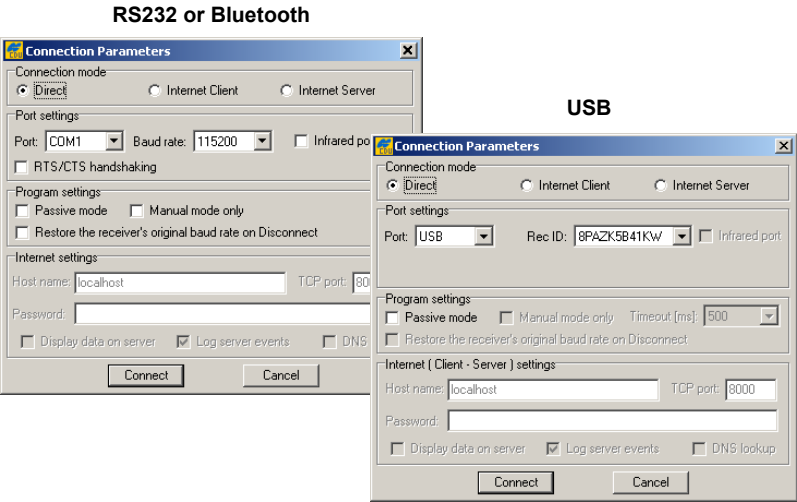

Figure 3-20. Connection Parameters
4. On the **Connection Parameters** dialog box, select the following parameters (Table 3-8), and click **Connect** (Figure 3-20).